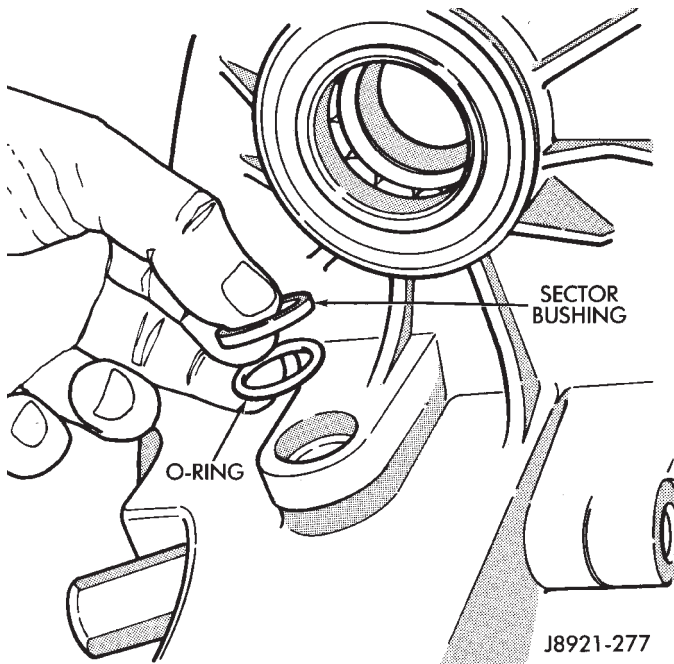
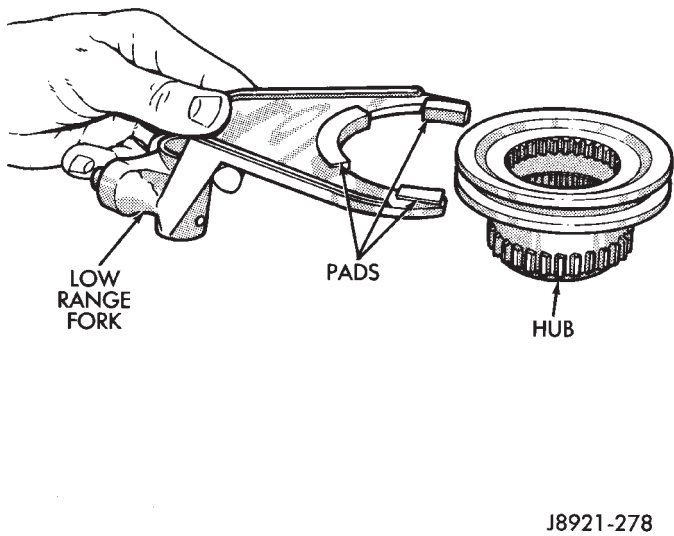

Fig. 63 Sector O-Ring And Bushing Installation
Fig. 64 Assembling Low Range Fork And Hub
- (1) Install new sector shaft O-ring and bushing (Fig. 63).
- (2) Install shift sector.
- (3) Install new pads on low range fork, if necessary, (Fig. 64).
- (4) Assemble low range fork and hub (Fig. 64).